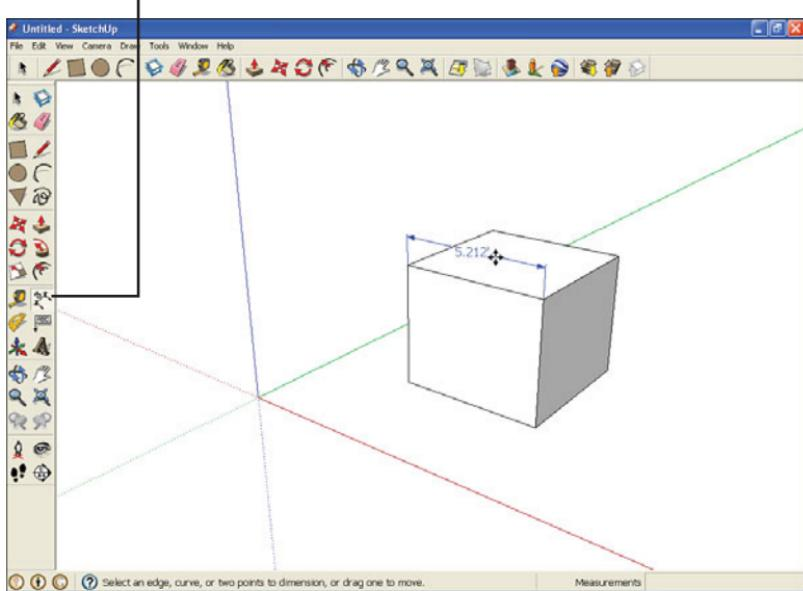

FIGURE 10.2 Pulling a dimensioning label using the Dimensioning tool.
6. Select the **Dimensioning tool** in the toolbar (shown in Figure 10.2).
8. Pull a dimensioning label away from the edge. You can see what this looks like in Figure 10.2.